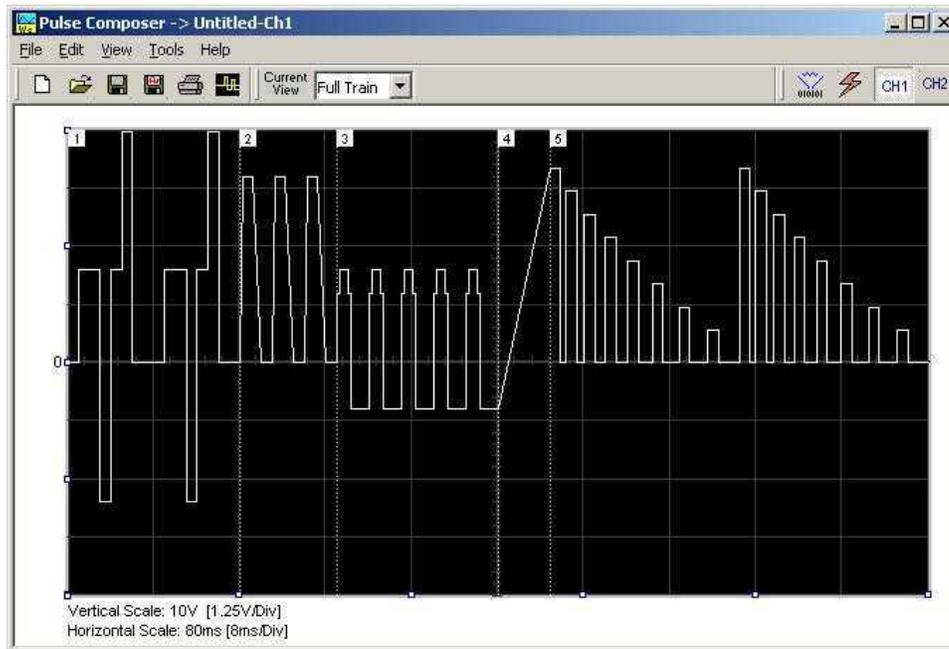
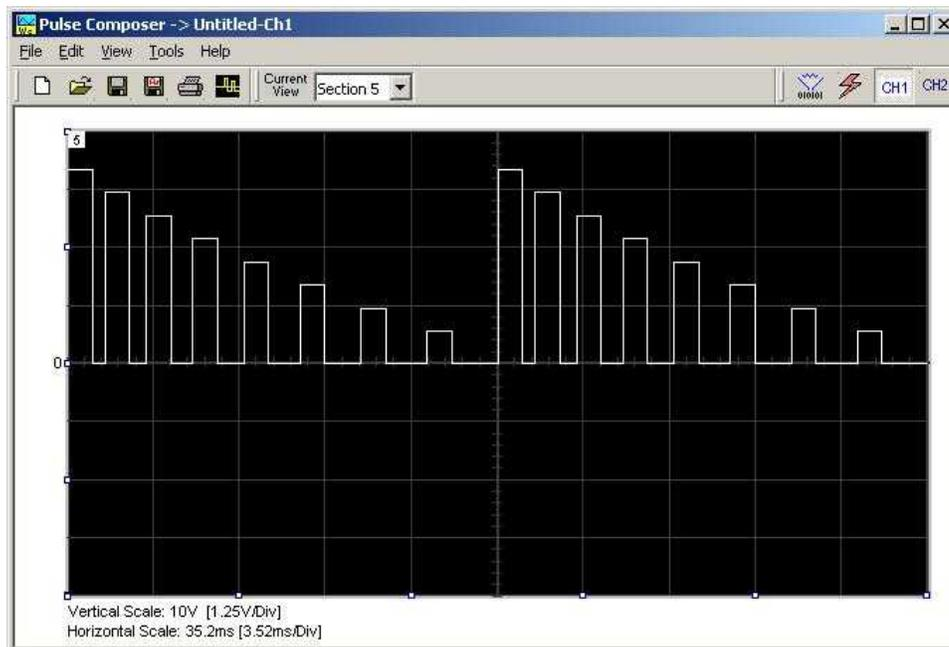
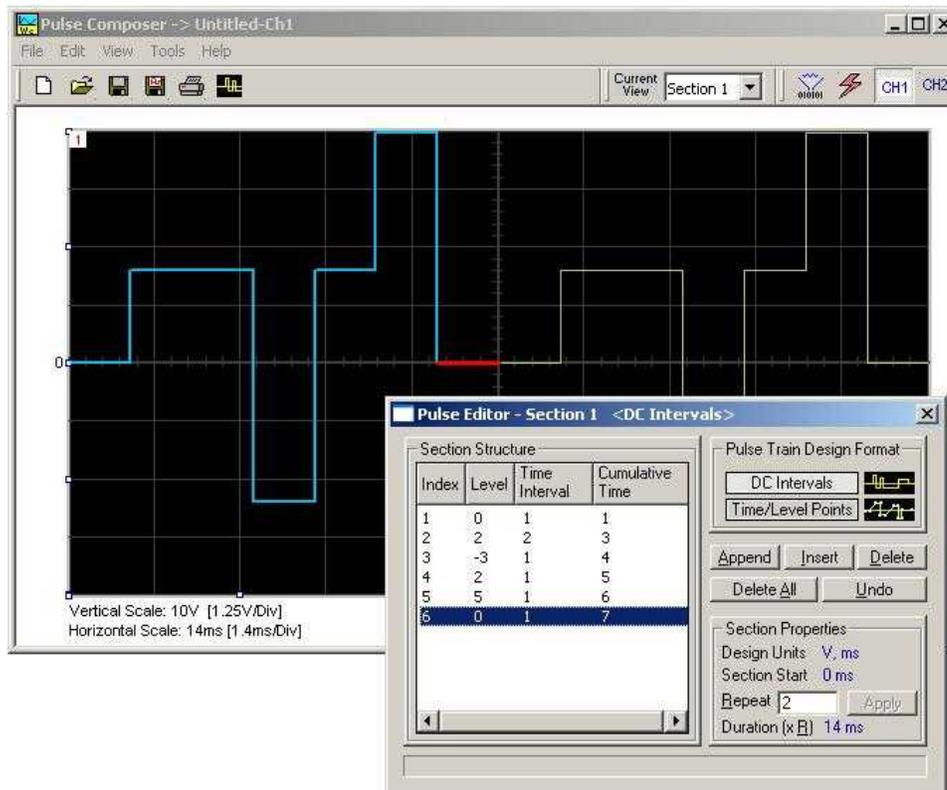

Figure 4-29, Complete Pulse Train Design
Figure 4-30, Section 5 of the Pulse Train Design
Figure 4-33, Building Section 1 of the Pulse Example
Pulse train is constructed from 1 or more sections. If the pulse is simple, it can be created using one section only. For more complex pulse train, the train can be divided to smaller sections and each section designed separately for simplicity. Figure 4-29 shows a complex pulse train which was made from five simpler sections and Figure 4-30 shows the design of the fifth section only of the pulse train.
Now that we somewhat understand the terms we use for the pulse design, we start with an example how to design the pulse train as shown in Figure 4-30. If you already have some pulses shown on your pulse composer screen, click on New to start from a fresh
**Pulse Example, Section 1** Now that we are better familiar with the pulse editor and its options, we are ready to start building the first section of the pulse as shown in Figure 4-29. Point and click on the New icon and open the pulse editor. Type in the level and time intervals as shown in Figure 4-33. Note that the pulse segments are being created on the screen as you type the values.
**Pulse Example, Section 2** The first pulse section is complete. We are ready now to start building the second section of the pulse as shown in Figure 4-33. Point and click on the Edit command and select the Append Section option. A new section number will appear but it will show empty next to the section identifier.
Congratulations for coming this far. If you followed the above description how to build this pulse example, the screen should look exactly as shown in Figures 4-33 and 4-37. If you are happy with the results, the next step is to download what you see on the pulse composer screen to the generator.